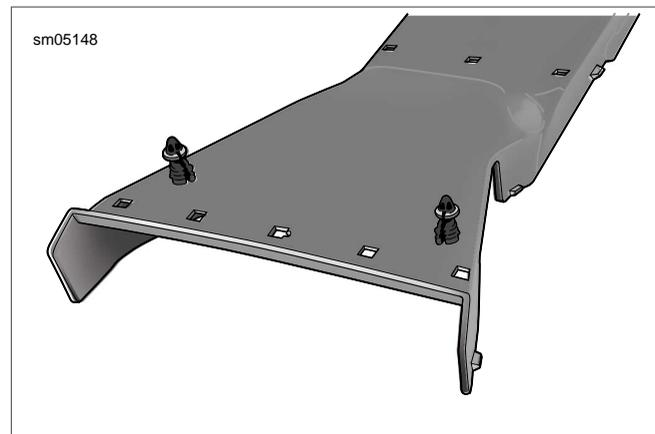

Figure 8-100. Wire Trough Anchor Pins
13. Gently pry anchor pins at rear of wire trough from holes in frame backbone. For best results, insert large flat blade screwdriver between bottom of wire trough and top of frame backbone when prying. See Figure 8-100.
8. Push anchor pins at rear of wire trough into holes in frame backbone. See Figure 8-100.